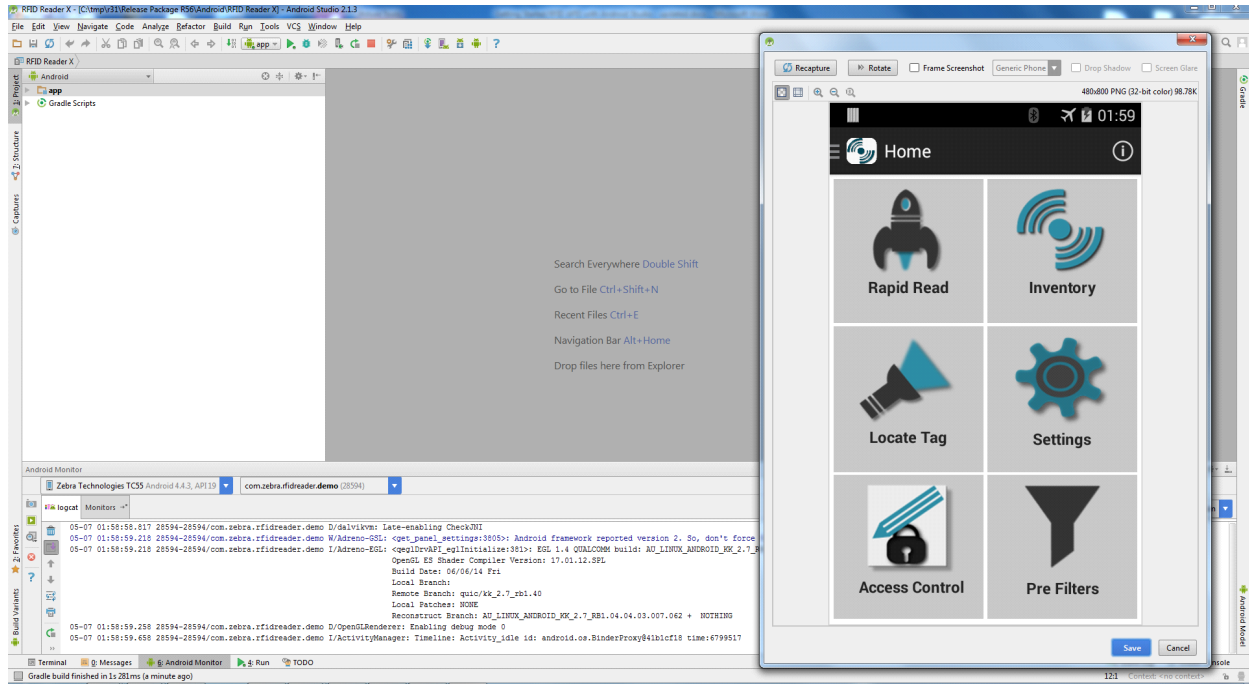

Figure 4-7 Demo Application
4. The screen in *Figure 4-7* shows the captured image of the demo application running on an Android device.